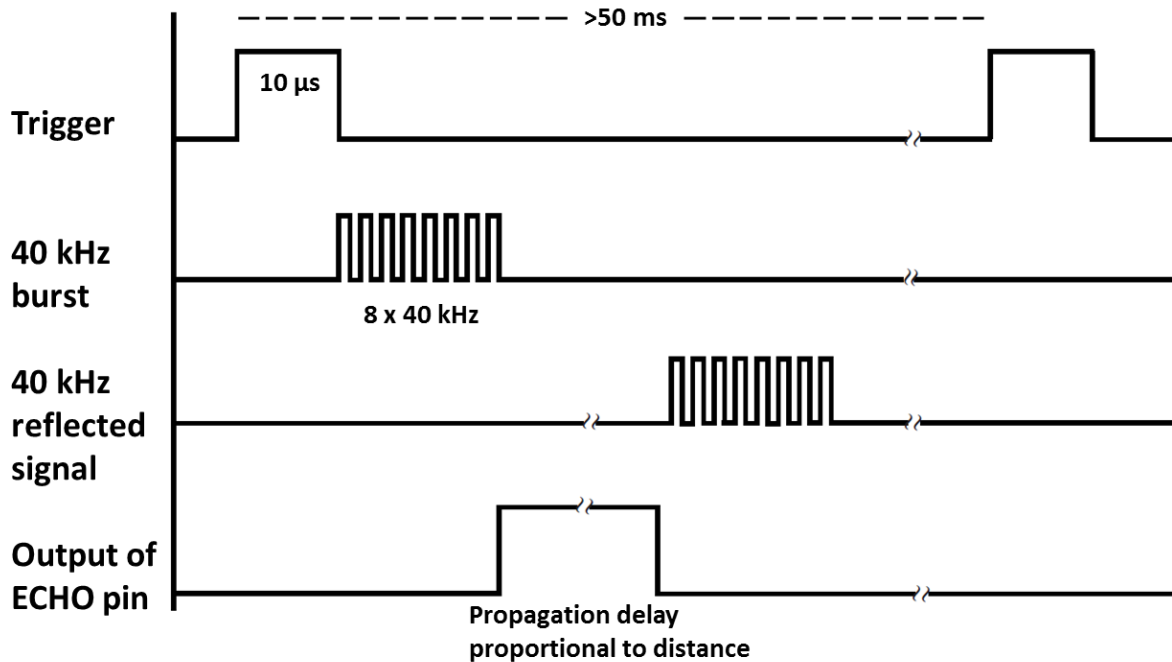

FIGURE 4 – HC-SR04 timing requirements
**Figure 4** shows the timing requirements and the working principles of the module.